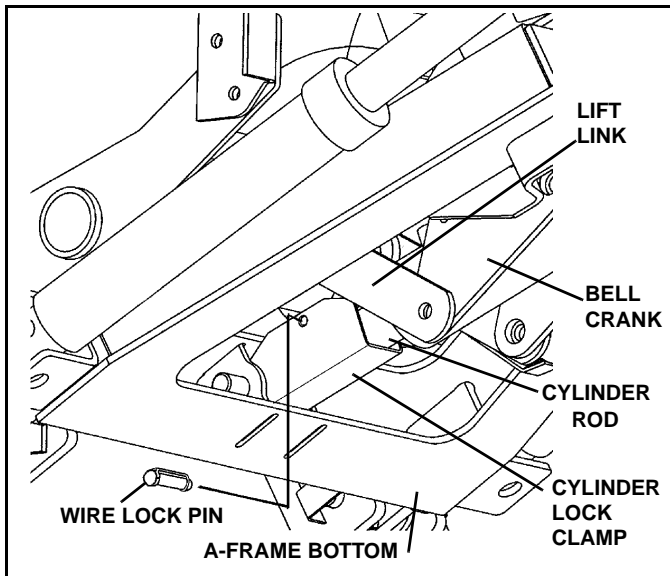

Figure 1-16
5. Position the cylinder lock clamp around the exposed (chrome) portion of the lift cylinder with the open side of the cylinder lock up. Install the pin. (See Figure 1-16).